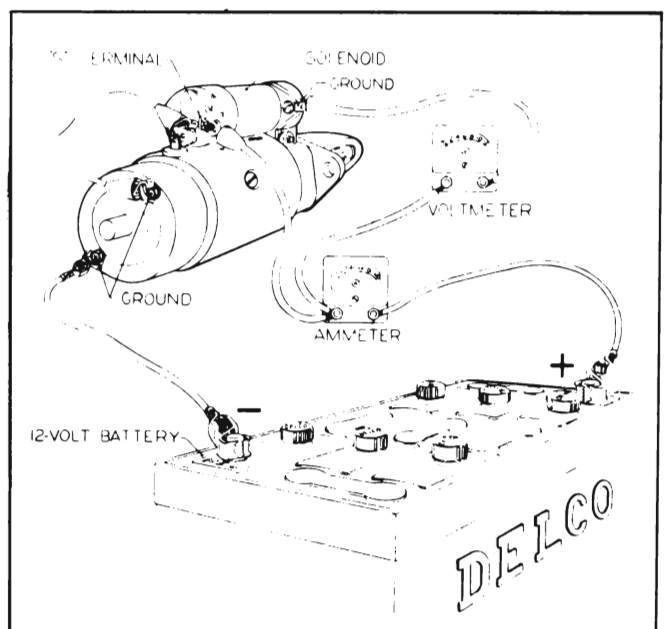

Figure 10-28—Amperage Test of Solenoid
1. Remove screw from solenoid motor terminal and bend field leads slightly until clear of terminal. Then ground solenoid motor terminal with a heavy jumper wire. See Figure 10-28.